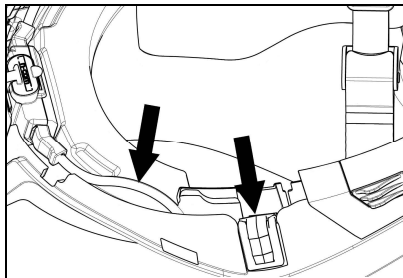

Fig. 12
- Fix the cable inside the helmet and make sure the left fixing clip snaps into its housing (Fig. 12)